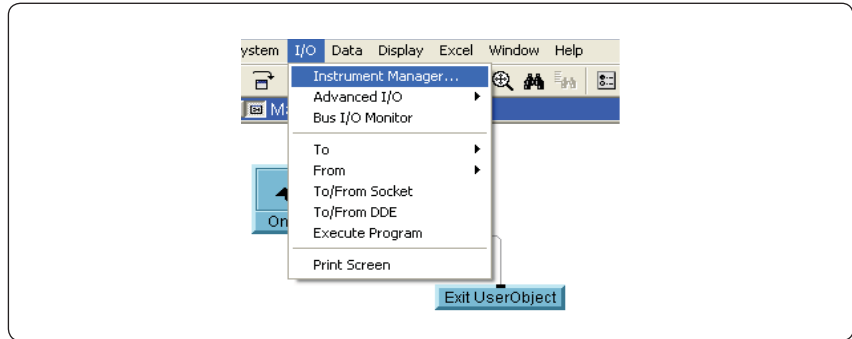
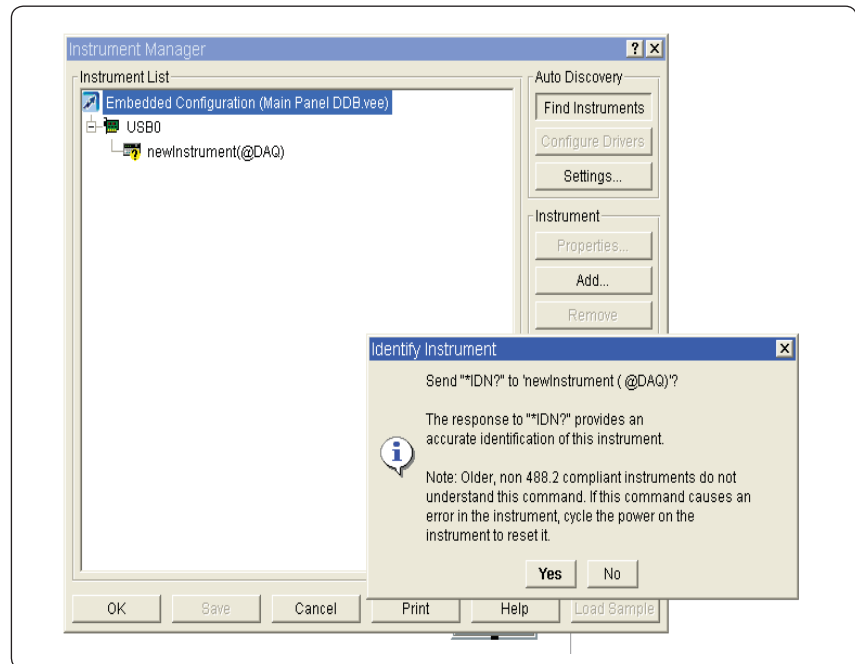

Figure 6. I/O menu of Agilent VEE Pro
Figure 7. Agilent VEE Pro Instrument Manager
2. Select **I/O** menu on the menu bar and select **Instrument Manager** as shown in Figure 6. The Instrument Manager dialog box will appear as shown in Figure 7.